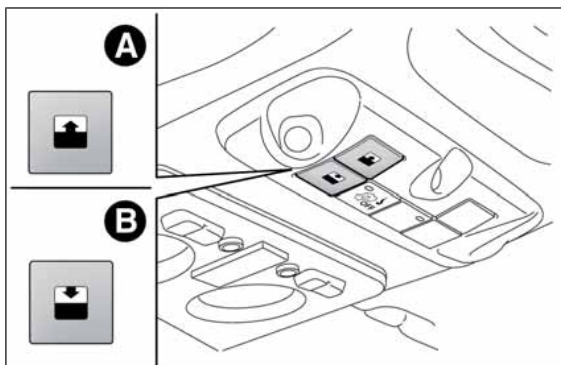

fig. 54
The sun roof can be operated only with the ignition key turned to MAR. The controls A and B fig. 54 on the trim next to the front courtesy light operate the sun roof opening/closing functions.
Pressing button A fig. 54 permits two opening modes for the front glass panel.
Pressing button B fig. 54 permits two closing modes for the front glass panel.
- press button B fig. 54 until the roof is completely closed. Release the button;